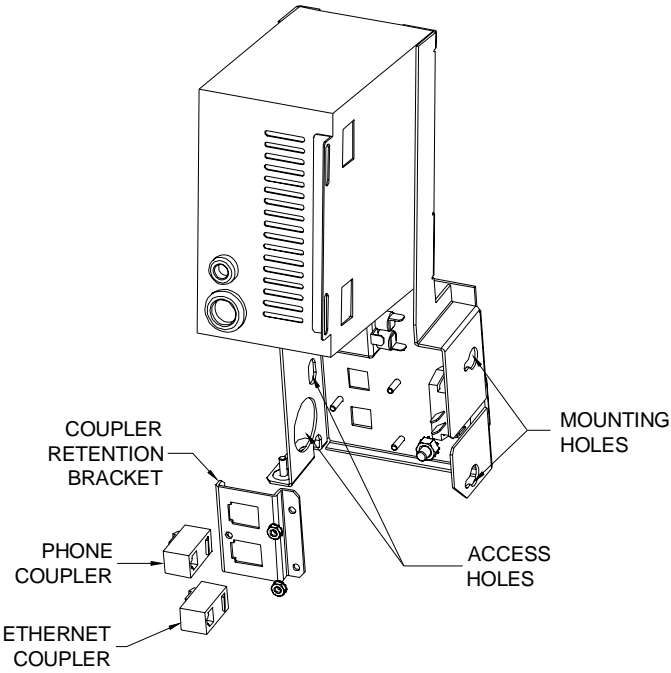

FIGURE 22 - POWER ENTRY ASSEMBLY
16. Use the holes on the opposite side of the power supply mounting bracket to loosen the 2 nuts fastening the bracket to the chassis, then remove the third nut located on the outside of the bracket. Then remove the nut connecting the ground wire. See Figure 22.
52. Secure the coupler retention bracket with the thumbnuts. Orient the supplied, snap-in Ethernet coupler and insert it into the lower access hole in the coupler retention bracket. Then orient the supplied, snap-in phone coupler and insert it into the upper access hole in the coupler retention bracket. See Figure 22.